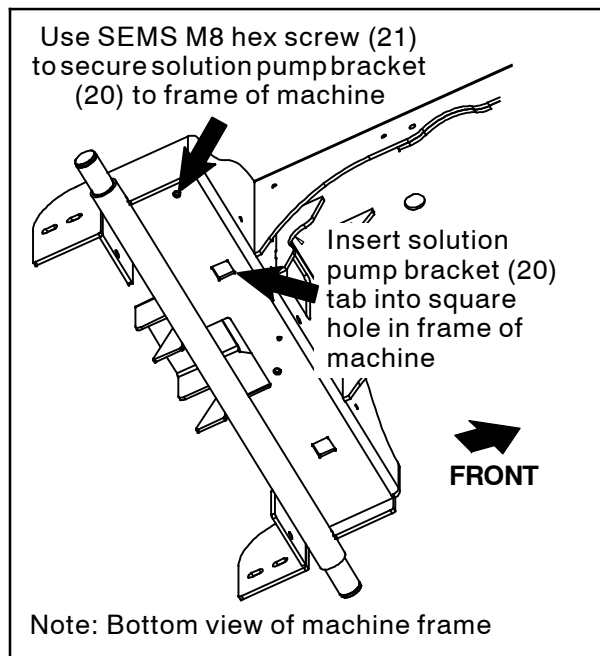
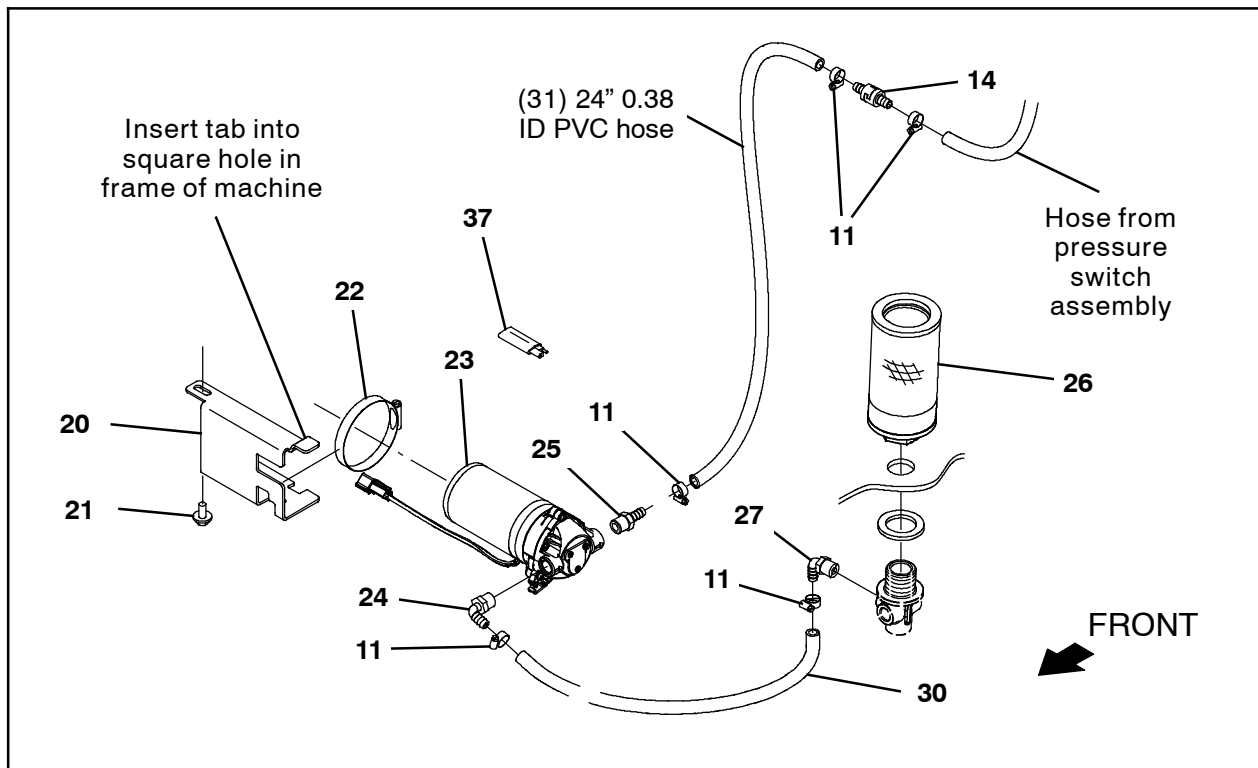

FIG. 12
FIG. 13
12. Install a plastic straight fitting (25) and 90° plastic fitting (24) into the solution pump (23). (Fig. 13)
13. Use a hose clamp (22) to install the solution pump bracket (20) onto the solution pump (23). (Fig. 13)
16. Insert solution pump bracket (20) tab into square hole in frame of machine and use one SEMS M8 hex screw (21) to secure the solution pump bracket / solution pump (23) onto the frame of the machine. (Fig. 12 / Fig. 13)
- Install the 90° plastic fitting (27) onto the solution fitting. (Fig. 13)
- Install the solution fitting onto the bottom of the solution tank. (Fig. 13)
- Install the new filter screen (26) inside the solution tank. (Fig. 13)
- Use a hose clamp (11) to connect the 36" 0.38 ID PVC hose (30) to the 90° plastic fitting (27) on the solution fitting. (Fig. 13)
- Route the 36" 0.38 ID PVC hose (30) along the back axle and to the solution pump (23). (Fig. 13)
- Use a hose clamp (11) to connect the 36" PVC hose (30) to the plastic straight fitting (25) installed in the solution pump (23). (Fig. 13)
- Route the 24" 0.38 ID PVC hose (31) connected to the pressure switch assembly to the solution pump (23). (Fig. 13)
- Use a hose clamp (11) to connect the 24" 0.38 ID PVC hose (31) to the straight fitting (25) installed on the solution pump (23). (Fig. 13)